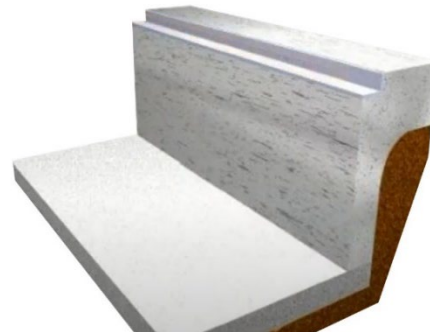

Figure 5
Step 4: Allow for adequate cure time before removing form is important to ensure the strength of the trench. 30 Days is recommended but it may be dependent on the thickness and/or the amount of concrete poured. Remove form. *Figure 5*